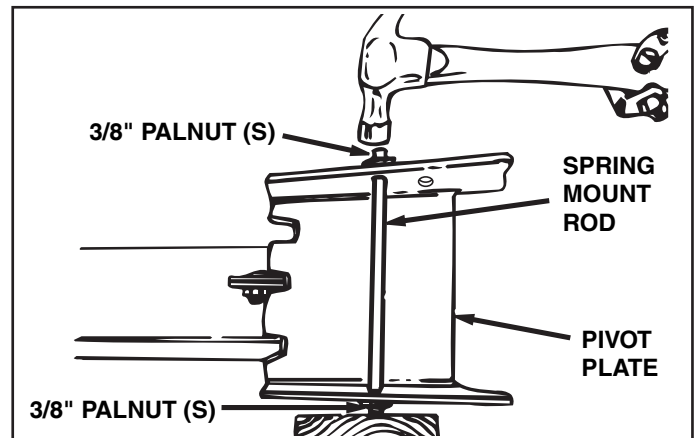

FIGURE 17 (Top View)
STEP 3: (SEE FIGURE 17)
- Using a hammer, assemble a 3/8" palnut (S) onto one end of the spring mount rod. Insert the other end of the spring mount rod through the pivot plate using the rear set of holes. Support the assembled end of the spring mount rod on a block of wood, and assemble the remaining palnut onto the other end of the rod.